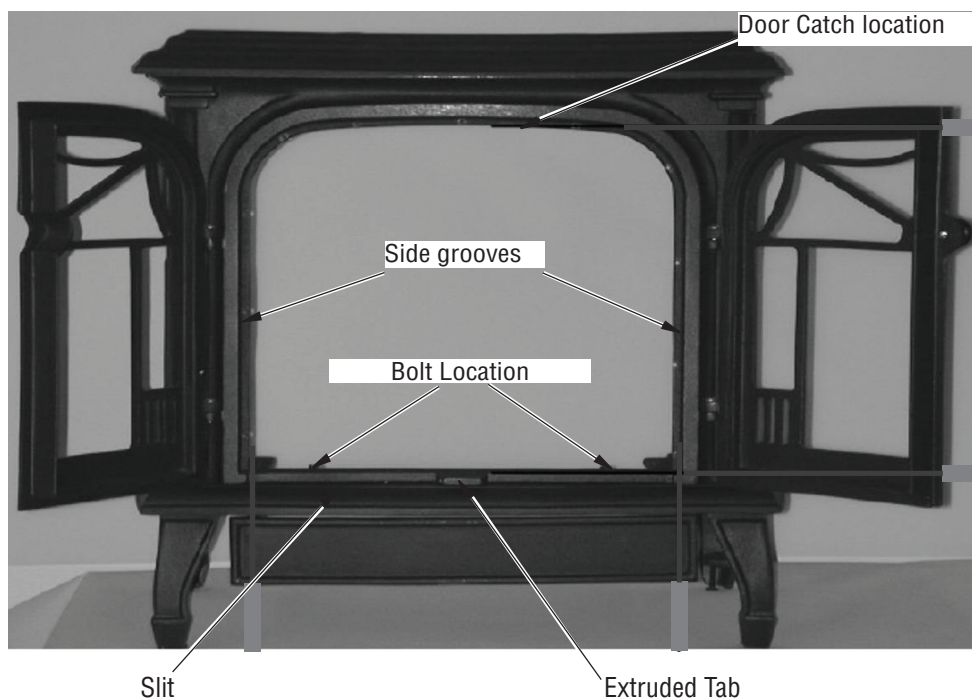

Figure 21 - Installing Barrier and Barrier frame Into Cast Iron Stove Body
3. Place the barrier resting it over cast iron side grooves and extruded tab located at bottom front face of cast iron body (see Figures 21 and 22).
5. Place bolts removed in step 2 from underneath bottom front of cast iron body to secure the frame (see Figure 21 for bolts location).